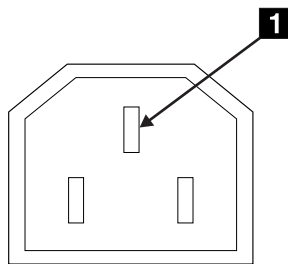

Figure 9. Ground pin (220 V 2104 Model DS4)
5. Check for continuity between the chassis of the 2104 Model DS4 and the ground pin **1** of the power connector on each fan-and-power-supply assembly. See Figure 9.